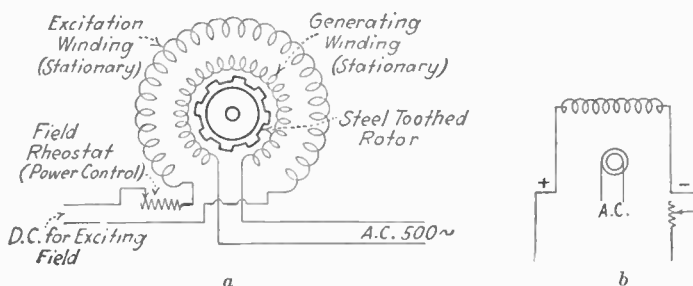

FIG. 66.—Elementary wiring diagram of alternating-current generators.
*Ans.* Figures 66 *a* and *b* illustrate elementary diagrams of alternating-current generators with field regulating device.
The alternating-current generator produces an alternating current or one that changes its polarity periodically. There are two important types of alternating-current generators, the collector or slip-ring type and the inductor type (see Fig. 66).